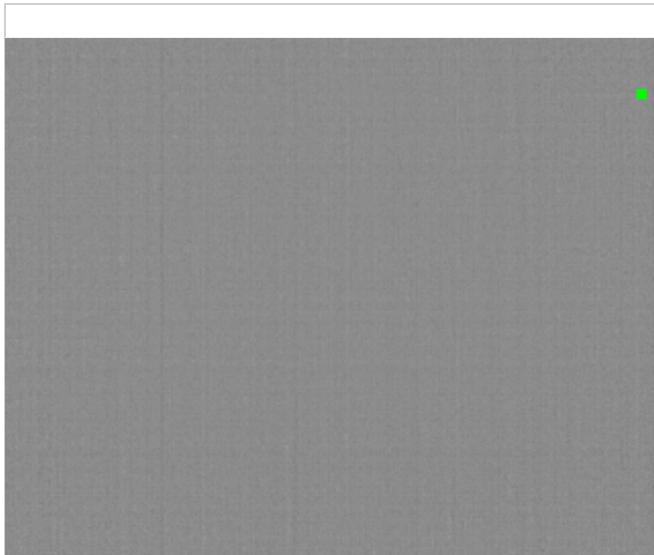

FIGURE 36: “FFC IMMINENT/IN PROGRESS” SYMBOL (FACTORY-DEFAULT); UPPER RIGHT CORNER
- **FFC In Progress**: By factory default, the symbol shown in Figure 36 is displayed whenever the FFC State = “FFC Imminent” or “FFC in Progress.” See Section 7.9 for a full description of the FFC states.